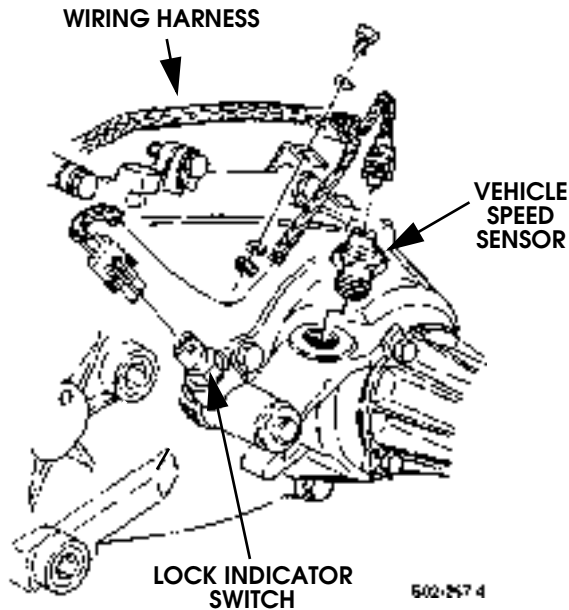

Figure 5-73: Speed Sensor and Lock Indicator Switch Location
1. Disconnect harness connector from vehicle speed sensor, lock indicator switch, and/or range indicator switch (Figures 5-73 and 5-74).
2. Remove switch and/or sensor from transfer case (Figures 5-73 and 5-74).